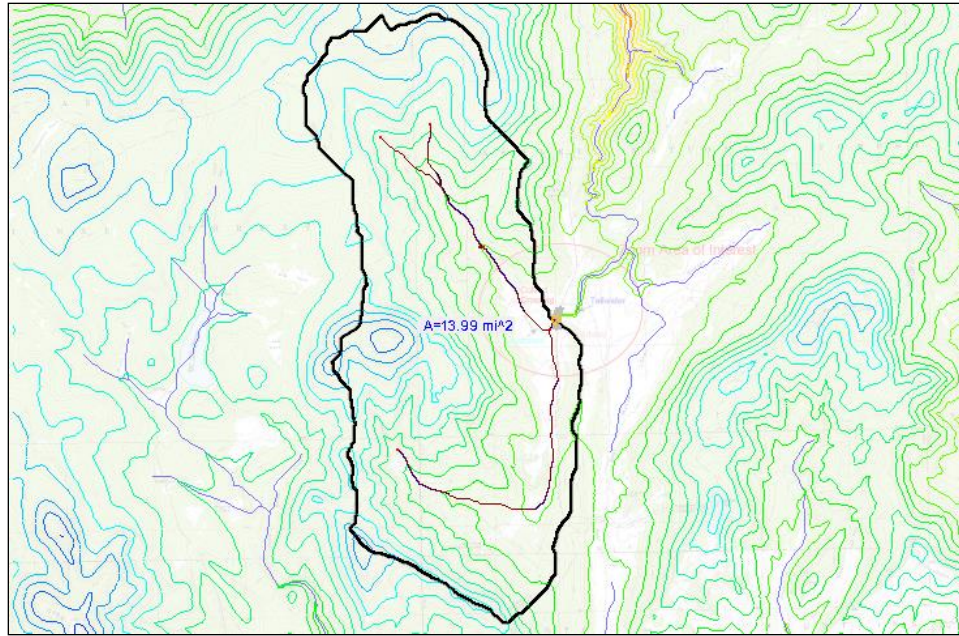

Figure 4 Delineated watershed with outlet at the culvert
3. Click **Delineate Watershed** to create the watershed boundaries (Figure 4).